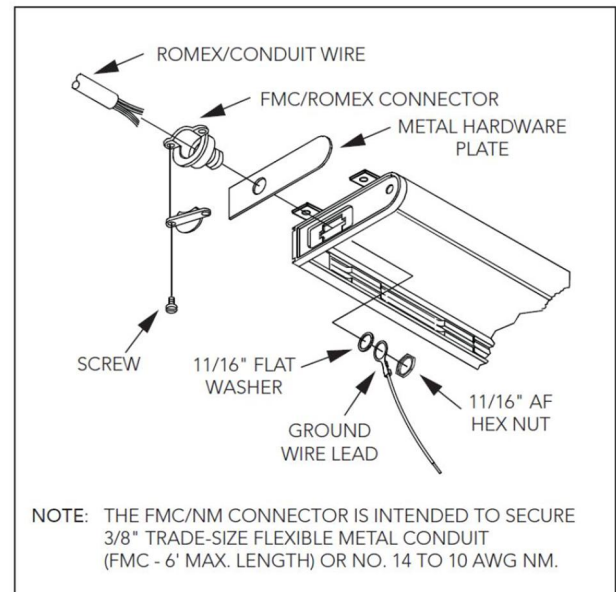

Figure 3
4. If the electrical feed is being made on the left side of the fixture, the receptacle Molex connector will need to be removed from the plastic end cap. Squeeze the fasteners on each side of the connector and push the receptacle Molex connector into the housing. Place the metal hardware plate in place into the end of the plastic end cap. See Figure 3.